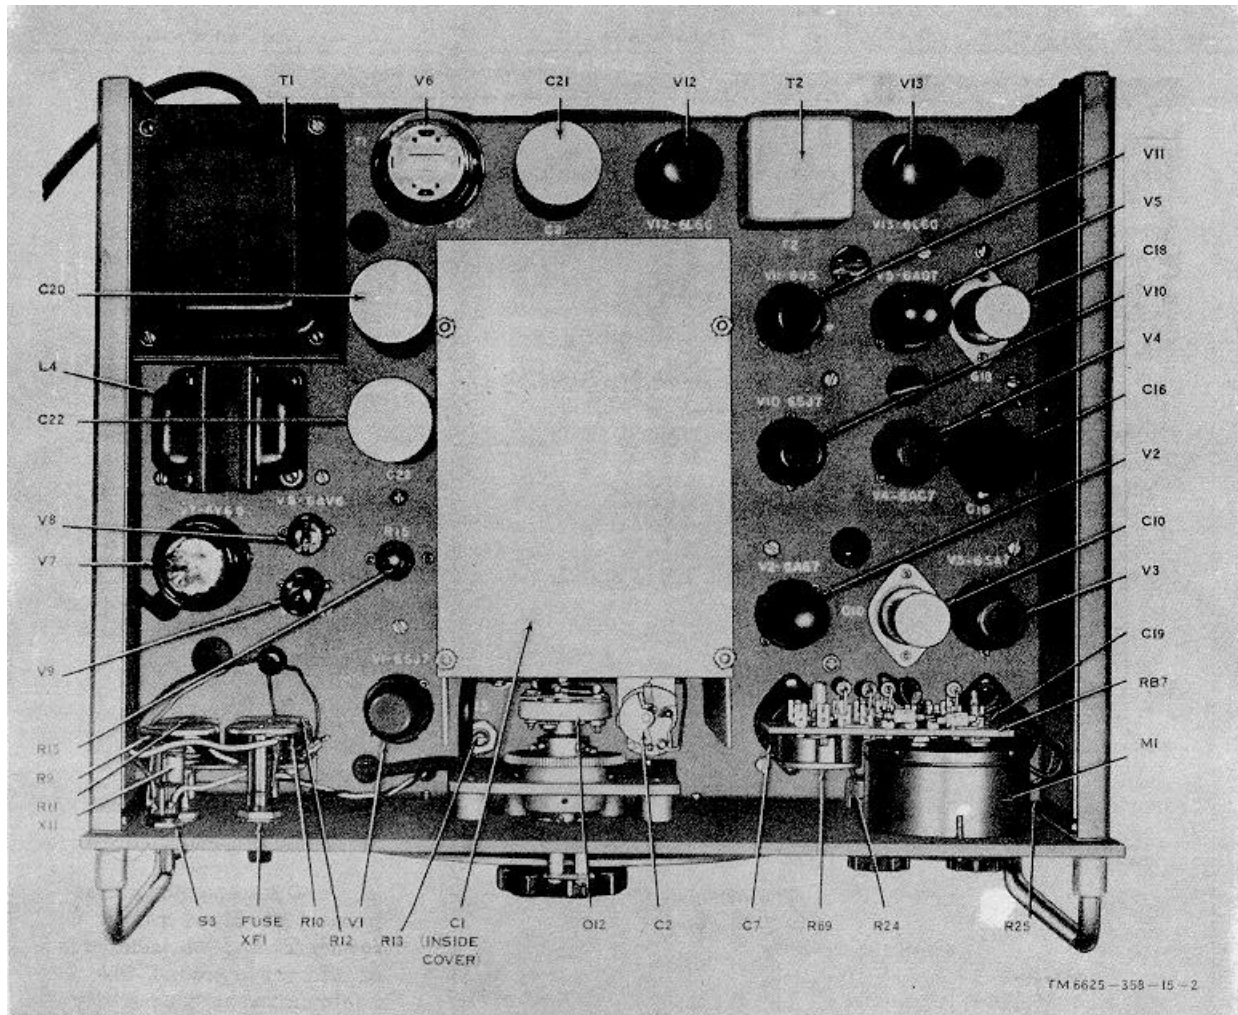

Figure 6-1. Signal Generator SG-71/FCC, SG-71A/FCC, or SG-71B/FCC, top view, cover removed.
*a. General.* In the troubleshooting chart (d below), procedures are given for localizing troubles to a stage within the signal generator. Parts locations are shown in figures 6-1 through 6-5. Voltage and resistance measurements are shown in figures 6-6, 6-7, and 6-8.